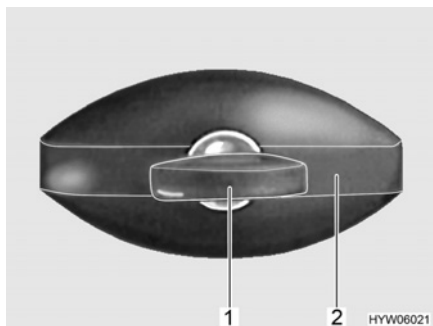

Fig. 21 Flap lock (elliptical-shaped, closed)
- Insert key into locking cylinder (Fig. 21,1) and turn a quarter turn in an anti-clockwise direction. The lock handle (Fig. 21,2) snaps out.